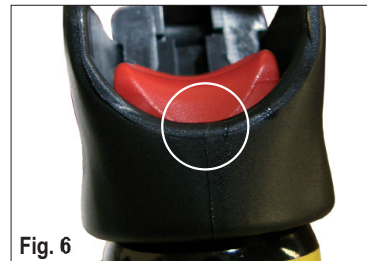

Fig. 6
7) Insert now very cautiously the release button downwards. Beware! If you push too much you could unwillingly cause a shot of gas! Push gently the spray release button away from you towards the flashlight module. The release button must fit into two longitudinal grooves in the head and at the same time it must be lightly seated on the tube of the spray valve - see Fig. 5. Fig. 6 shows the correct position of the inserted nozzle, when the curl on the head is at the same level as the curl on the release button.